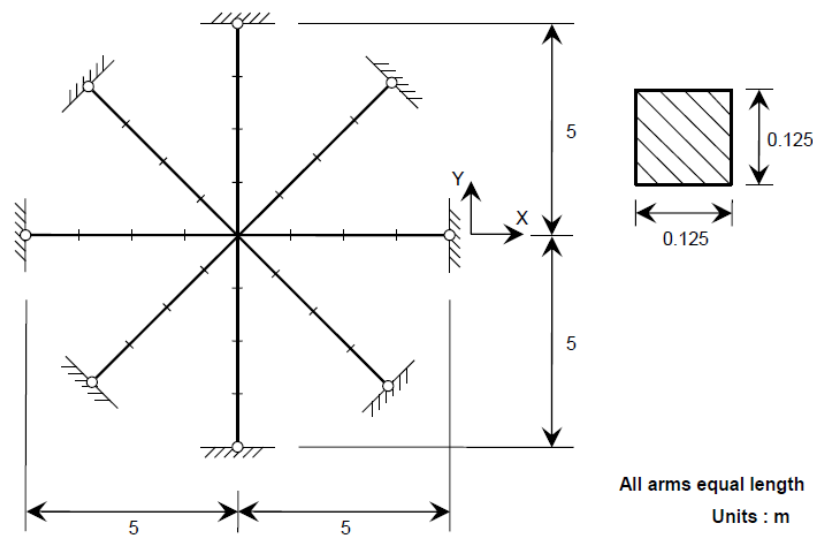

Figure 3.2.1 Pin-ended double cross model
1. Figure 3.2.1 shows the pin-ended cross model. The model is modeled with 4 elements per arm.